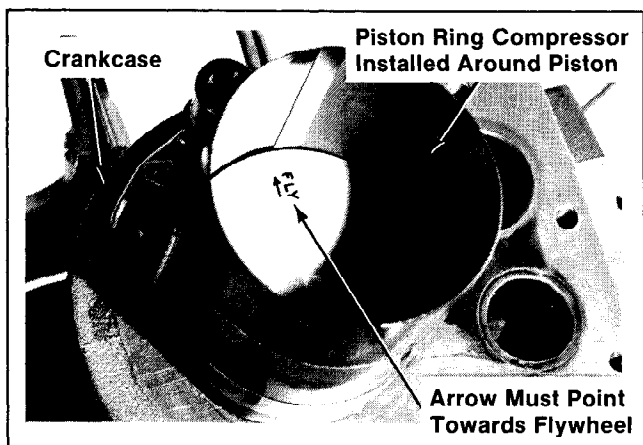

Figure 12-36. Installing Pistons.
2. Lubricate the piston and rings with engine oil. Install the piston ring compressor around piston. Refer to Figure 12-36.